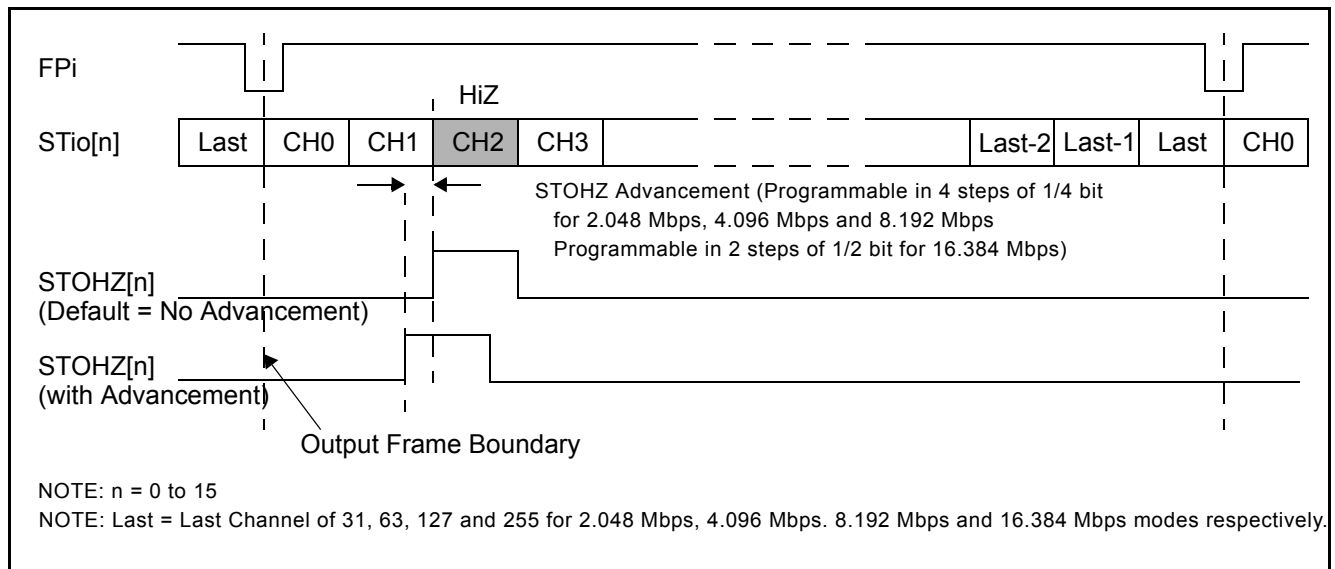

Figure 18 - Channel Switching External High Impedance Control Timing
There are 16 external high impedance control signals, STOHZ0 - 15, that are used to control the external drivers for per-channel high impedance operations. Only the first sixteen ST-BUS/GCI-Bus (STio0 - 15) outputs are provided with corresponding STOHZ signals. The STOHZ outputs deliver the appropriate number of control timeslot channels based on the output stream data rate. Each control timeslot lasts for one channel time. When the ODE pin is high and the OSB (bit 2) of the Control Register (CR) is also high, STOHZ0 - 15 are enabled. When the ODE pin, OSB (bit 2) of the Control Register (CR) or the RESET pin is low, STOHZ0 - 15 are driven high, together with all the ST-BUS/GCI-Bus outputs being tristated. Under normal operation, the corresponding STOHZ outputs of any unused ST-BUS/GCI-Bus channel (high impedance) are driven high. Refer to Figure 18 on page 34.